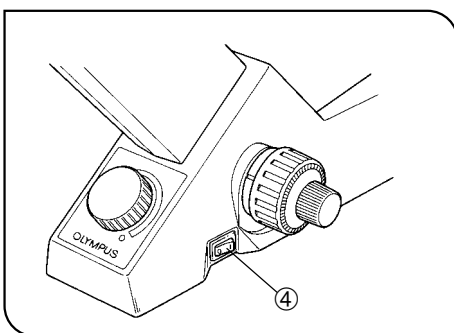

Fig. 2
5. To avoid potential shock hazards and burns when replacing the bulb, make sure the main switch is set to “O” (OFF), the power cord is unplugged from the outlet, and that the lamp and the area around the lamp socket have cooled sufficiently. (Fig. 2)